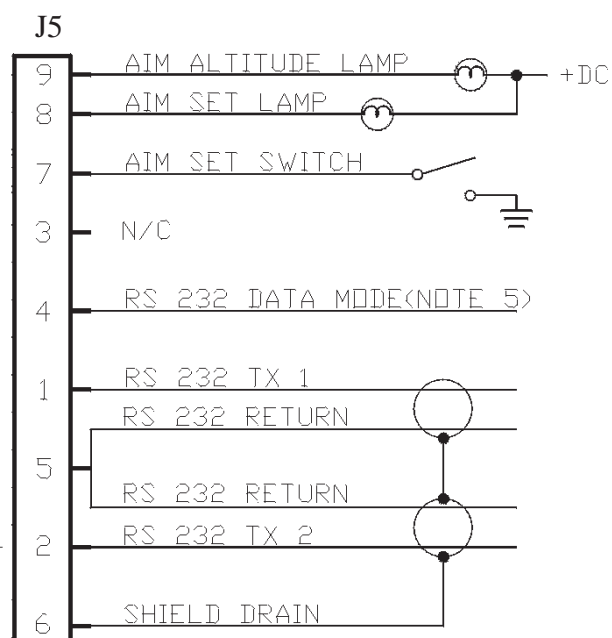

Figure 3-5
4. See Figure 3-5 for AIM function interconnect wiring.